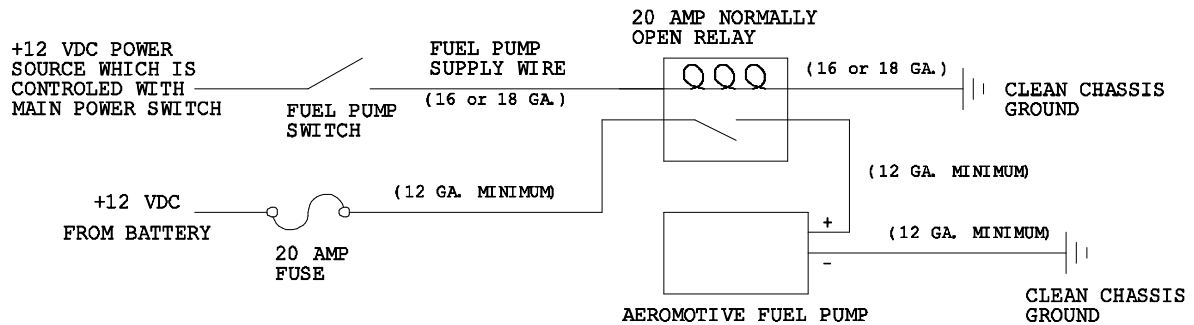

Figure 2-1
4. Prep the new Aeromotive Stealth tank by making all the necessary connection (feed, return, vent and electrical) before placing tank in vehicle. Once the tank is placed in the vehicle these connection will not be accessible. For electrical wiring refer to **Figure 2-1**.